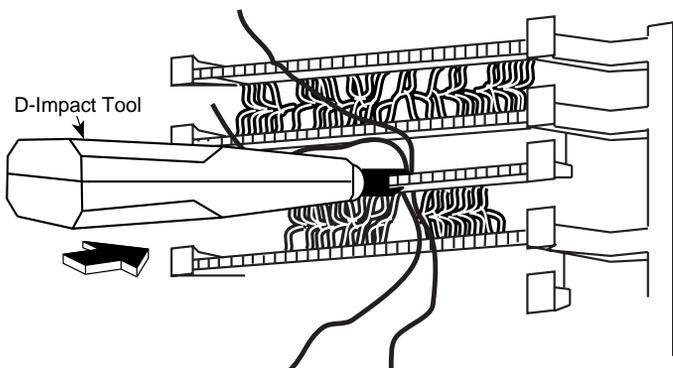

Figure 4-4. Using the D-Impact Tool to Seat the Conductors
- c. Use the D-impact tool to seat the conductors. See Figure 4-4.